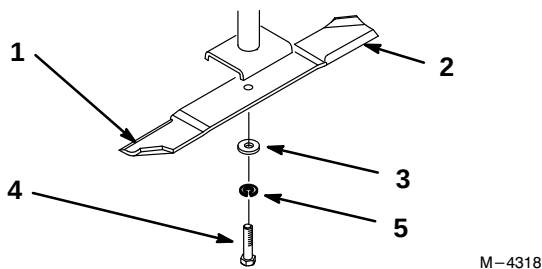
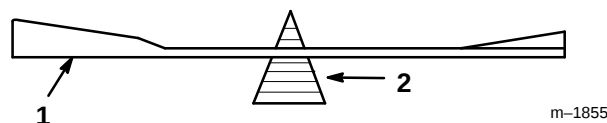

Figure 20
Figure 22
Hold the blade end using a rag or thickly-padded glove. Remove the blade bolt, flat washer, split lockwasher and blade from the spindle shaft (Fig. 20).
2. Check the balance of the blade by putting it on a blade balancer (Fig. 22). If the blade stays in a horizontal position, the blade is balanced and can be used. If the blade is not balanced, file some metal off the end of the sail area only (Fig. 20). Repeat this procedure until the blade is balanced.
1. Install the blade onto the spindle shaft (Fig. 20).
2. Install the flat washer, lock washer and blade bolt (Fig. 20). Torque the blade bolt to 85–110 ft-lb (115–150 N•m).